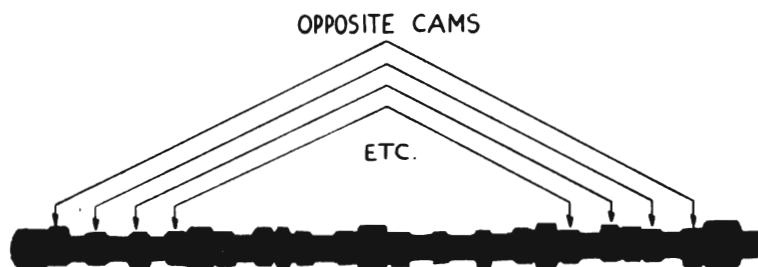

Fig. 6-26C. Opposite Cams
7. To check No. 1 inlet, rotate flywheel until No. 8 inlet valve is wide open and proceed as before. To check No. 2 exhaust, have No. 7 exhaust wide open, etc. In every case locate wide open position of corresponding opposite valve to the cam to be tested. See Fig. 6-26C.